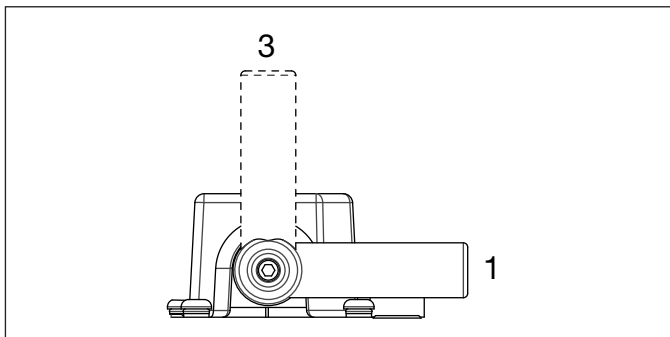

Figure 8
5.2 Pump Control Valve PUJ-1200B/E and PUJ-1201B/E models (Figure 8)
The pump control valve directs hydraulic fluid output or return from the hydraulic system components. These models have 3 way, 2 position valves. Valve positions are shown in Figure 8: (1)-Advance; (3)-Retract. To advance the cylinder, shift the valve to the advance position (1) and press the pendant switch.